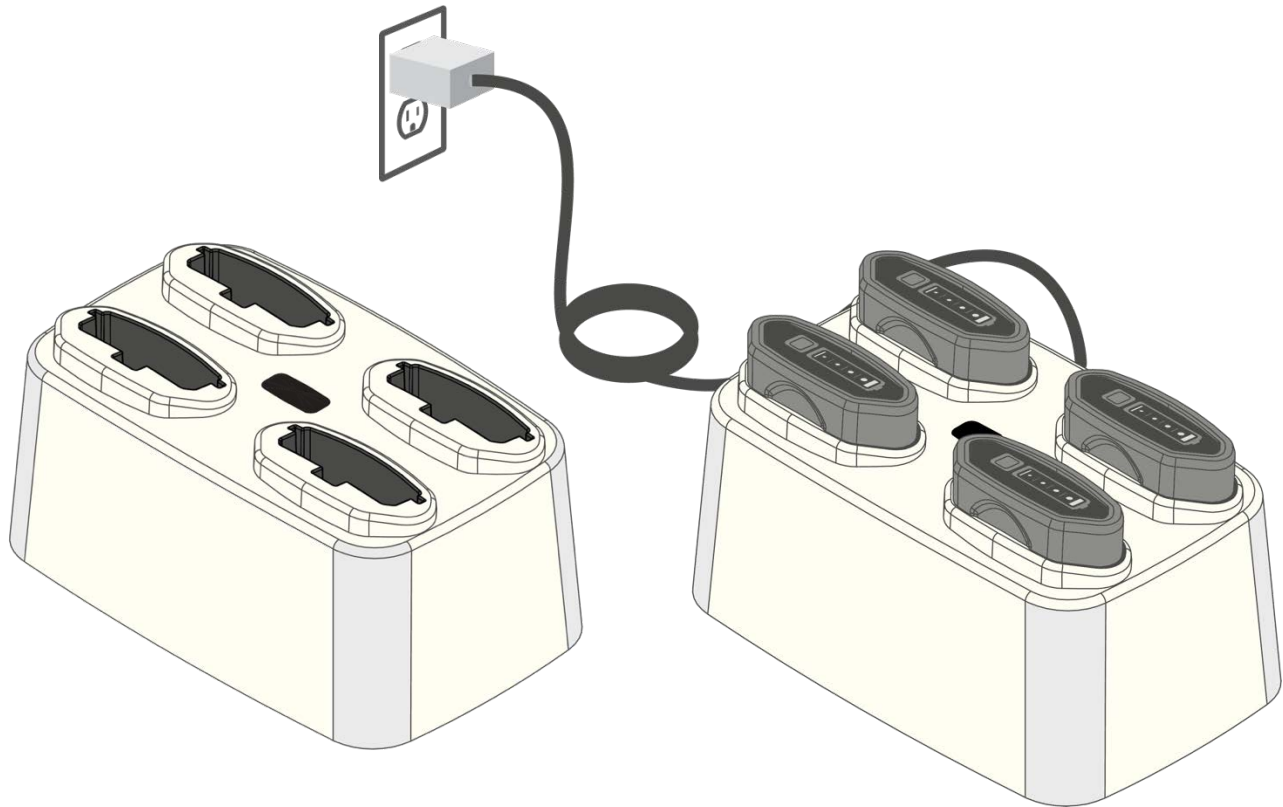

Figure 12 Charging B27 Batteries in a Quad-Bay Charger
5.10.2. The batteries can also be charged using the Quad-Bay battery charger (CRA-A274). Connect the Quad-Bay charger to the power supply provided for the charger and plug the power supply to an AC power source. Insert batteries into the charger (Figure 12). The batteries will start charging as the Power Gauge LEDs start flashing 4 second on and 1 second off. The LEDs will stay solid on when a battery is fully charged. The battery will be fully charged in approximately 4 hrs when using the quad-bay battery charger.